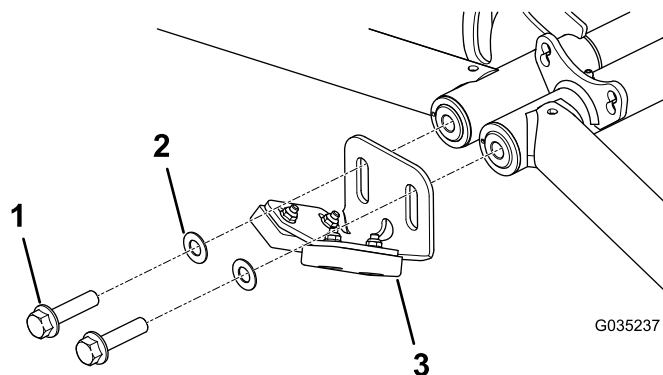

Figure 20
2. Round bumper, existing (2)—discard
4. Loosely install the front bumper assembly and the washers as shown in Figure 20.